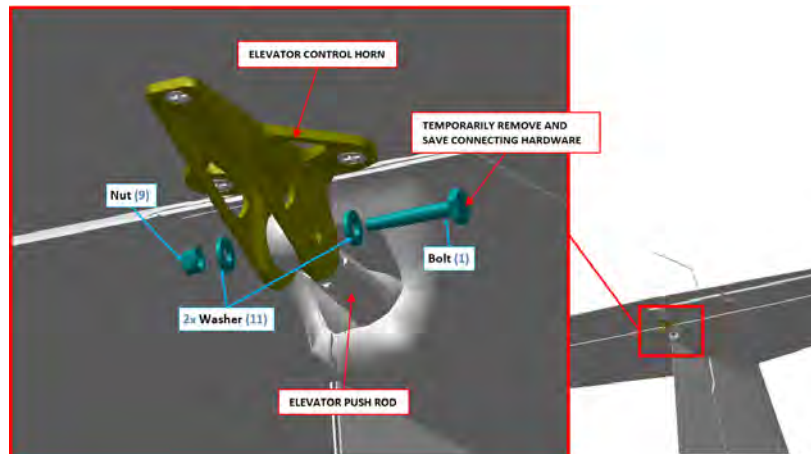

FIGURE 9-36
15. If installed, remove the hardware which secures the elevator push rod to the elevator control horn. See Figure 9-36.
19. Temporarily install the hardware which secures the elevator push rod to the elevator control horn. See Figure 9-36.